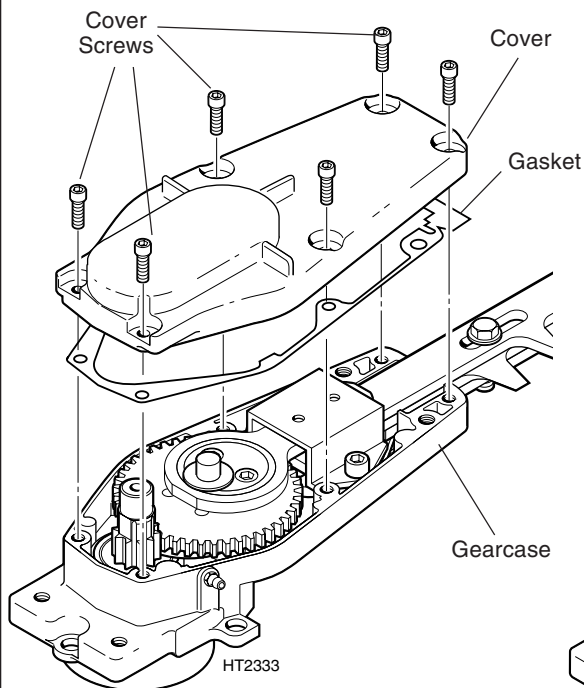

Figure 13. Removing the gearcase cover.
STEP 2. Working from the bottom of the gearcase, remove the six 4mm x 15mm gearcase cover screws and then remove the gearcase cover from the gearcase assembly (Figure 13).